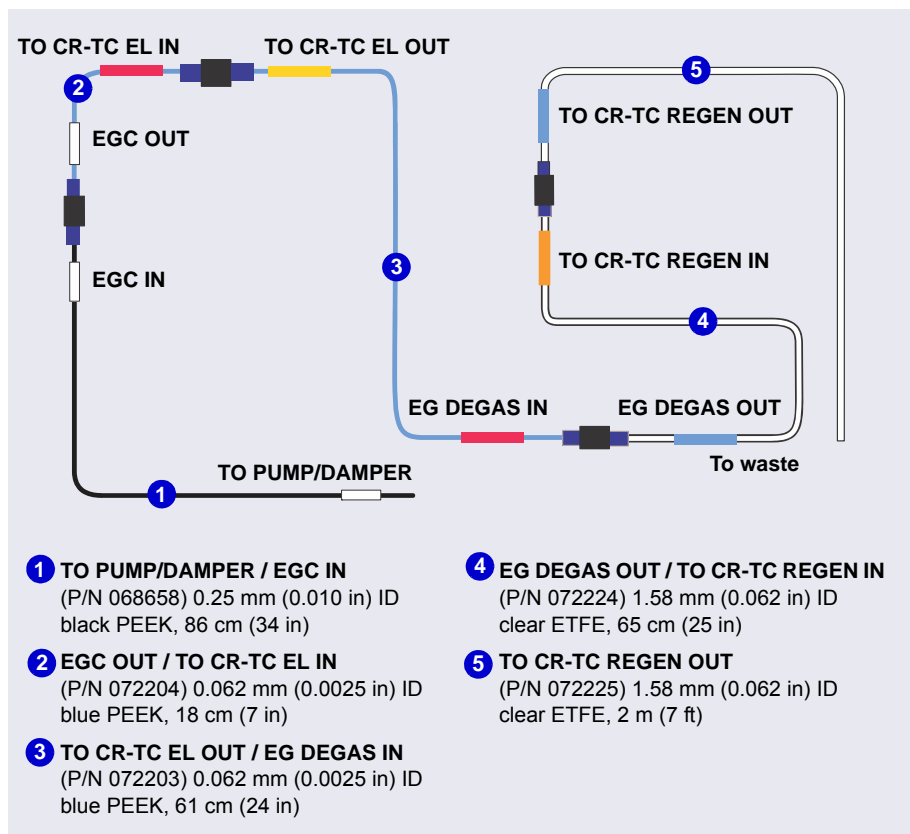

Figure 4-1. Pre-Assembled Tubing Chain
A pre-assembled tubing chain is included in the Dionex ICS-6000 IC Cube Ship Kit (P/N 072003). The chain includes several lengths of tubing connected to each other with unions (see Figure 4-1). The tubing will be used to plumb the pump outlet, Dionex EGC, Dionex CR-TC 600, and EG degas.
3. (Optional) Connect a temporary waste line to the outlet of the trap column. Use the **TO CR-TC REGEN OUT** line, which is part of the pre-assembled tubing chain (see Figure 4-1).
5. On the pre-assembled tubing chain (see Figure 4-1), connect the black PEEK tubing labeled **TO PUMP/DAMPER** to the outlet of the trap column. Keep the remaining tubing in the chain connected.
On the pre-assembled tubing chain (see Figure 4-1), connect the black PEEK tubing labeled **TO PUMP/DAMPER** to the pump pulse damper outlet. Keep the remaining tubing in the chain connected.
- Remove the union between the **EG DEGAS IN** and **EG DEGAS OUT** lines on the pre-assembled tubing chain (see Figure 4-1). Connect the lines to their respective ports on the EG degas cartridge.
3. Remove the **EG DEGAS IN** and **EG DEGAS OUT** lines from the pre-assembled tubing chain (see Figure 4-1) and connect them to their respective ports on the EG degas cartridge.